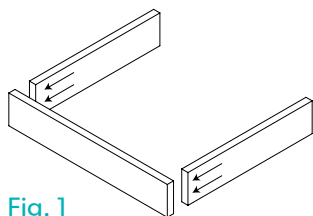

Fig. 1
2. Assemble the plinth infill by fixing the cam and dowels into place and securing the three components together (Fig. 1).